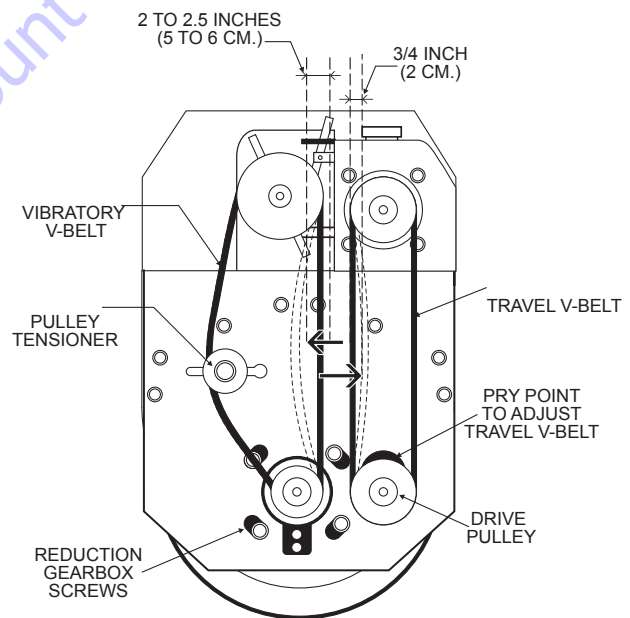

Figure 34. Travel and Vibratory Belts
1. Unlock the hood retaining latch and lift the hood to gain access to the V-belts. To adjust the **travel** V-belt, loosen the four mounting screws on the reduction gearbox (Figure 34).
2. Use the pry point (Figure 34) to achieve correct amount of V-belt tension. Tighten gearbox screws and check belt tension by verifying the amount of deflection when the belt is pressed midway between the two pulleys. This deflection should be approximately 3/4 of an inch (2 cm.).
1. To adjust the vibratory V-belt, loosen the pulley tensioner nut (Figure 34) and adjust the V-belt for approximately 2 to 2 ½ inches (5 to 6 cm.) of deflection.